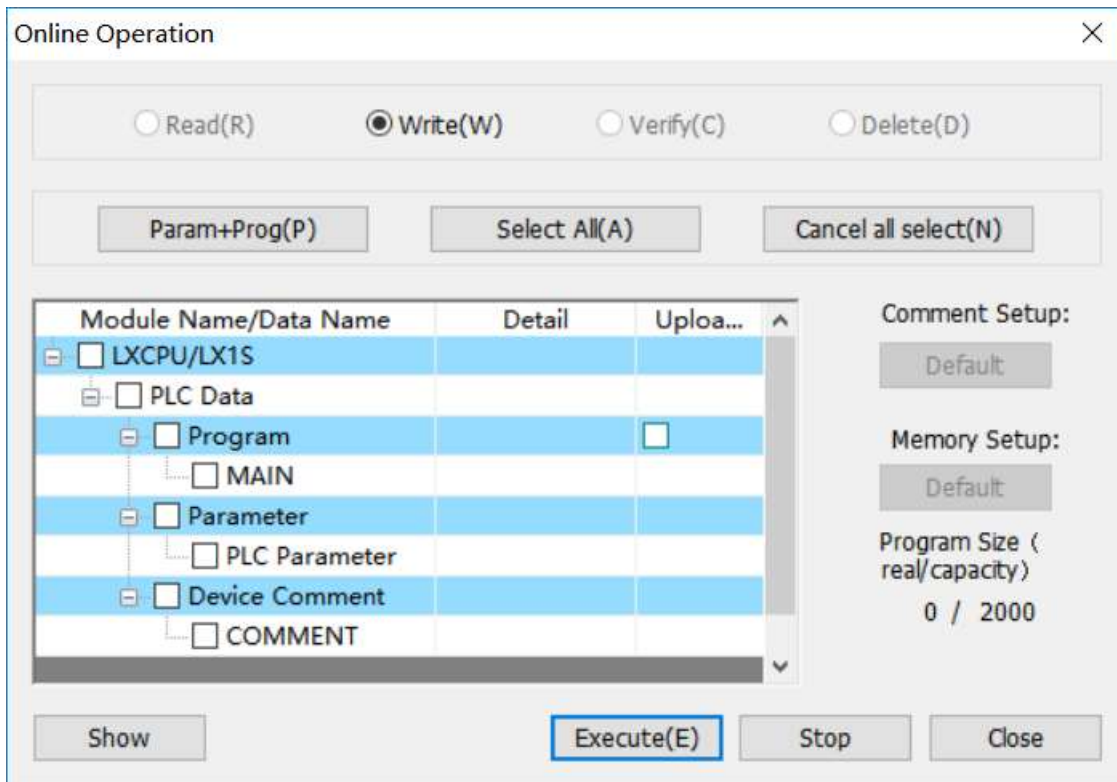

Figure 5-8
2) The download window as Figure 5-8 shows: